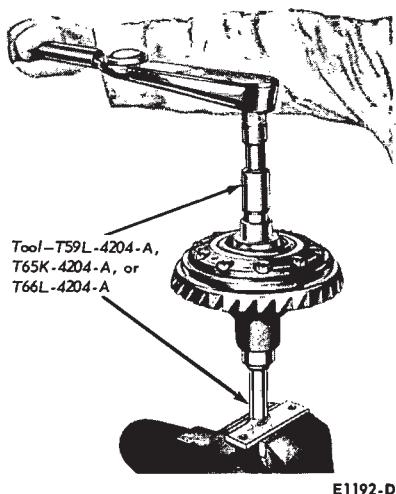

FIG. 54—Checking Traction-Lok Differential Torque
20. Prior to installation of the torque sensitive locking differential into a vehicle, a bench torque check must be made. Check the torque required to rotate one side gear while the other is held stationary (Fig. 54). The initial break-away torque may exceed 250 ft-lbs. The rotating torque required to keep the side gear turning with new clutch plates is 100 to 250 ft-lbs. With re-used clutch plates, the minimum torque required is 40 ft-lbs. (The torque may fluctuate 10-40 ft-lbs.).